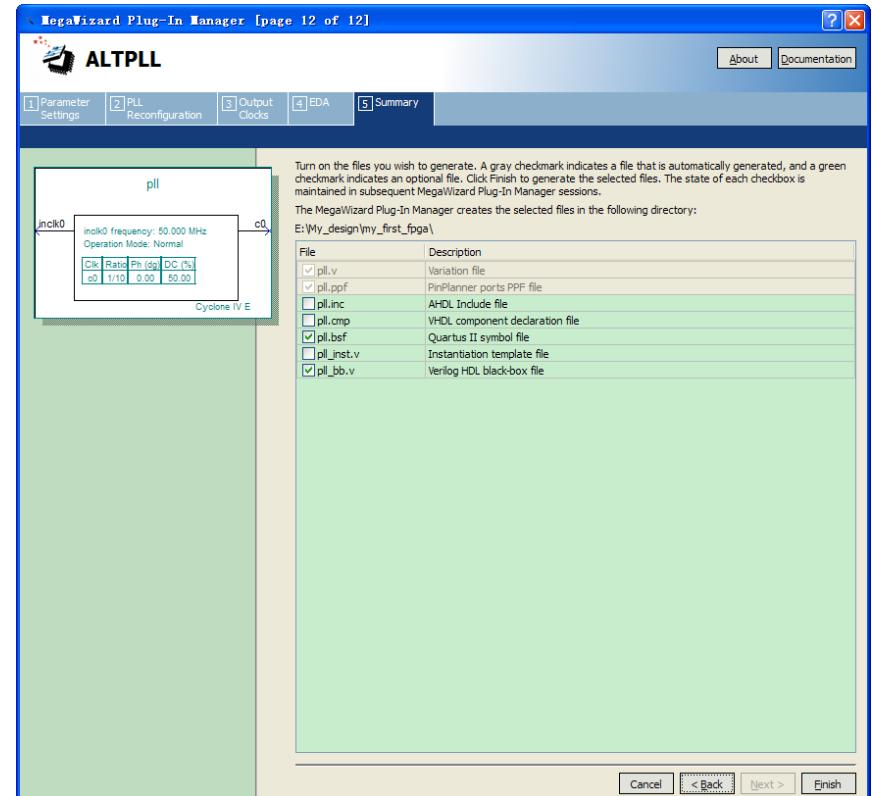

Figure 6-24 Wizard-Created Files
10. The wizard displays a summary of the files it creates (see Figure 6-24). Select the **pll.bsf** option and click **Finish** again.